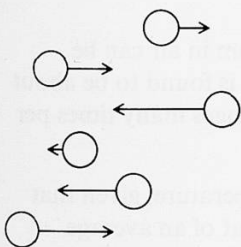

Figure A125
**63(L)** Consider six chosen molecules, each of mass  $5 \times 10^{-26} \text{ kg}$ , of a gas contained in a box. Three are moving to the right with speeds 200, 300, and  $500 \text{ m s}^{-1}$ , and three are moving to the left with speeds 100, 400, and  $600 \text{ m s}^{-1}$  (see figure A125.)